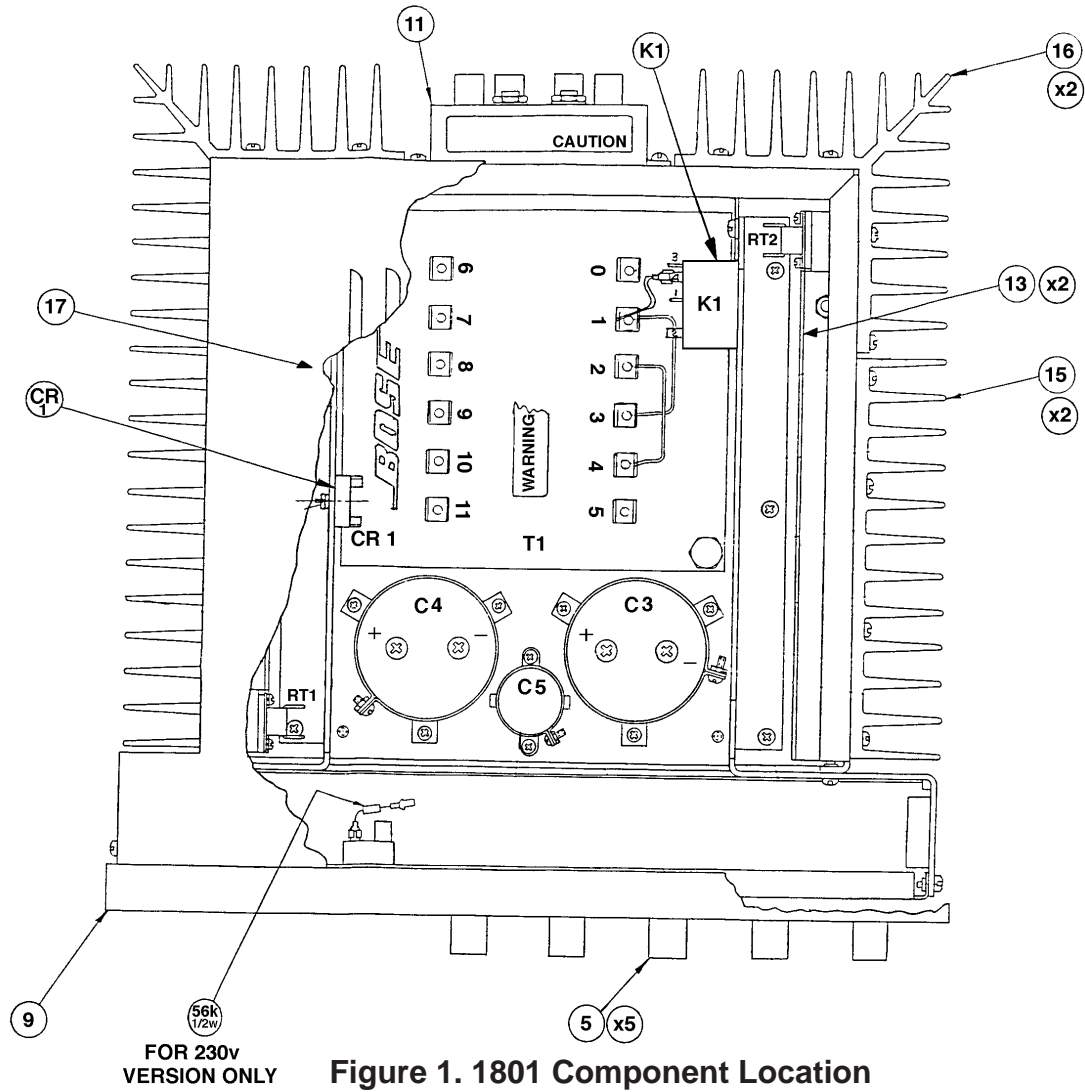

Figure 1. 1801 Component Location
Note: Refer to Figure 1 for the following procedures.
1.1 Locate the -85V negative terminal found on the capacitor (C4). See Figure 1 for the location of C4.